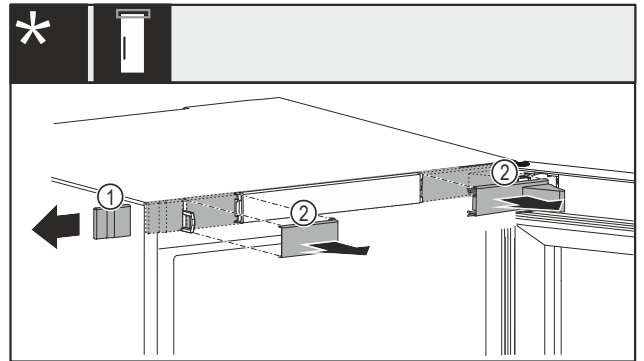

Fig. 14 With mechanical or electric lock\*
- Carefully remove the cover Fig. 14 (1) from the side.\*
- Carefully remove the covers Fig. 14 (2) towards the front.\*